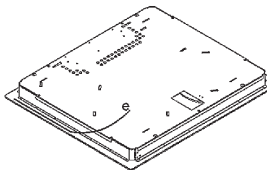

FIG. 9
1. Turnover the hob, take off the seal from the guard. Correctly place the sealing washer «e»(fig 9) under the hob. Be sure to place the sealing washer so that the external side of the sealing washer fits together with the external perimetrical edge of the hob. The ends of the sealing washer must fit together without overlapping.
2. Stick the sealing washer to the hob uniformly. Pressing it by fingers. (Figure 9)